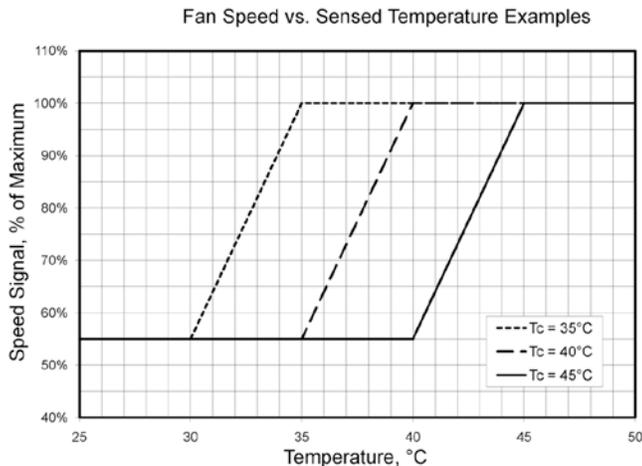

Figure 1.0: Fan speed signal vs. sensor temperature (5deg slope).
1) Temperature Based Fan Control: The speed of all fans is proportional to the temperature sensor connected to header J13, or the board mounted sensor. Figure 1.0 shows fan speed as a function of sensed temperature. I2C Bus register 0xF9 is used to set the control temperature, T_C (The control temperature is the temperature at which the full speed control signal is applied to the fans). Temperature sensor status and temperature readings are available on the I2C Bus.